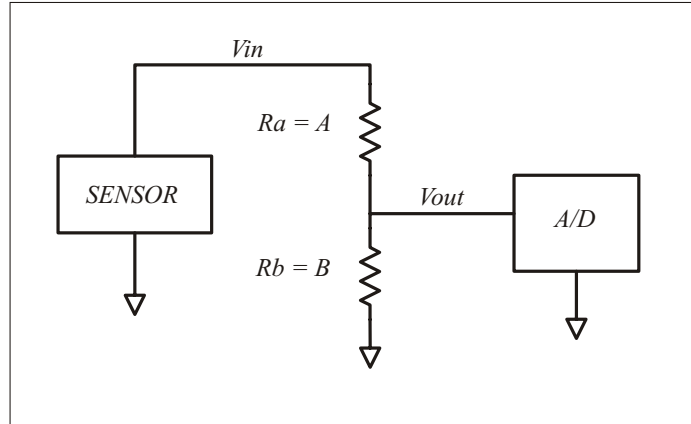

Figure 1: Basic two resistor scaling divider
The simple divider in Figure 1 is suitable for applications where only scaling is required. Note equation (4) or (5) is the same as equation (1) with $s = B/(A + B)$ and $b = 0$. That is to say it is a transformation with no bias or offset. As a specific example, suppose you have a sensor with an output range of 0 to 50 volts and wish to map that into a 0 to 5 volt range. Choosing $A = 90K$ ohms and $B = 10K$ would scale the input by $10/(10 + 90) = 0.10$, and the (0,50) volt sensor would be divided down to (0,5) volts. The circuit is: